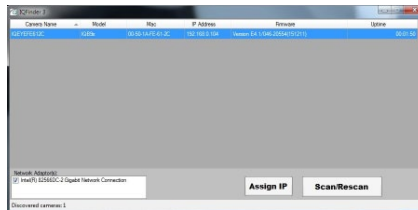

Figure 11
1. Download and install IQfinder from the Vicon website. Launch and scan for cameras on the network by clicking the refresh button. The detected cameras will be displayed in the IQfinder window. Select a camera from the list and click “Assign IP” to edit the selected camera’s network settings. Refer to Figure 11.